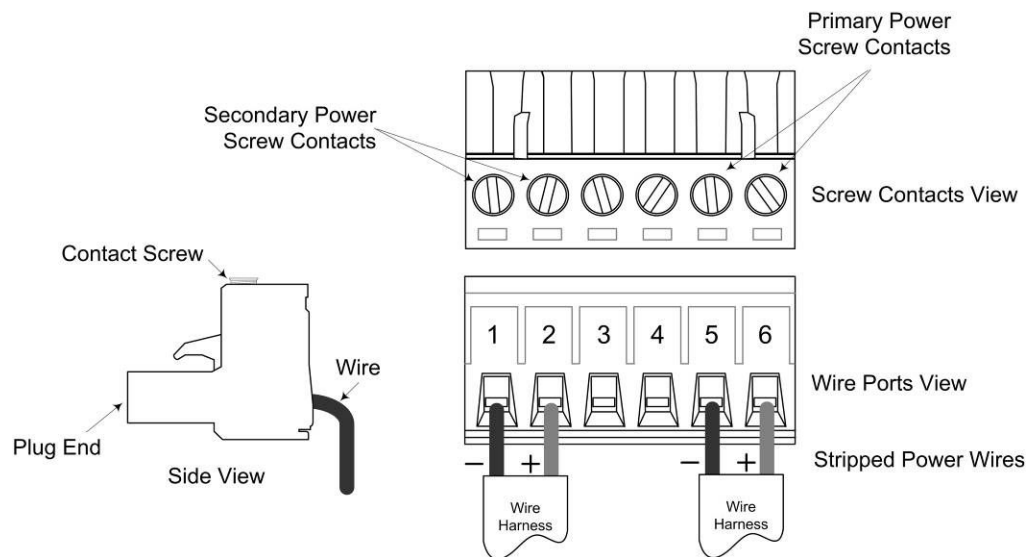

Figure 9: 6-Position Terminal-Block (Primary/Redundant Power Wiring)
3.	Insert one stripped power wire into the terminal block plug. Observe polarity. See Figure 9.
4.	Secure the wire using a flathead screwdriver by tightening the contact screw. See Figure 9.
A barrel connector interface cable is included with the Media Converter and can be used to convert the barrel connector output of an external AC/DC power supply over to a wire interface that can then be inserted into the terminal block following the instructions and figure 9, both located on page 13 of this manual.
3.	Insert one stripped power wire into the terminal block plug, Observe polarity. See Figure 9 on page 13.
4.	Secure the wire using a flathead screwdriver by tightening the contact screw. See Figure 9 on page 13.